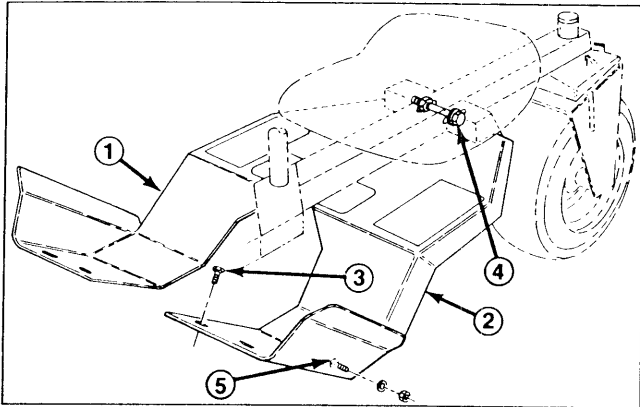

Figure 6
1. Loosely secure front of each fender to frame with (2) self tapping screws (Fig. 6). Do not tighten screws.
2. Secure left fender to chain guard with a 1/4-20 x 1/2" lg. machine screw and speed nut (Fig. 6).